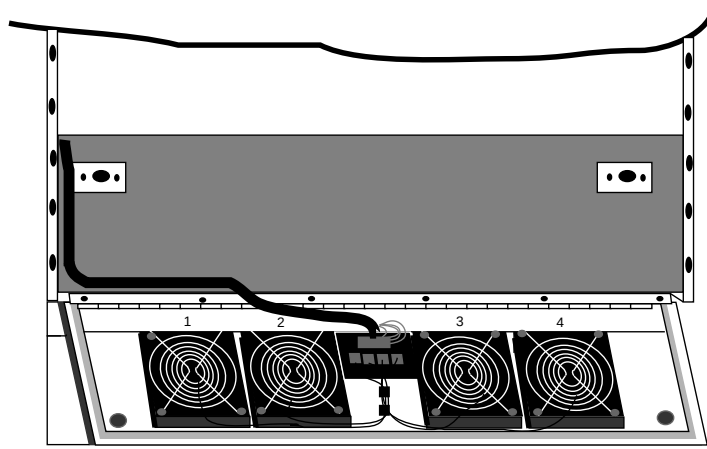

Figure B-3. CPU Chassis Fan Panel
3. Loosen the two captive screws on the chassis CPU fan panel or the drive bay rear access door and open the appropriate door by letting it "fall" toward you (Figure B-3).